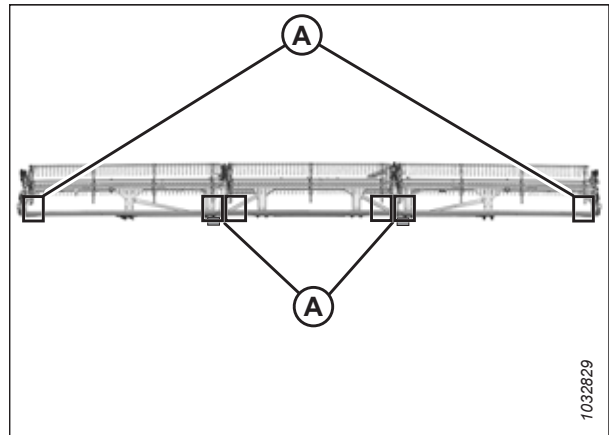

Figure 7.33: FlexDraper® Measurement Locations – Triple Reel
- Figure 7.33, page 194 – triple reel